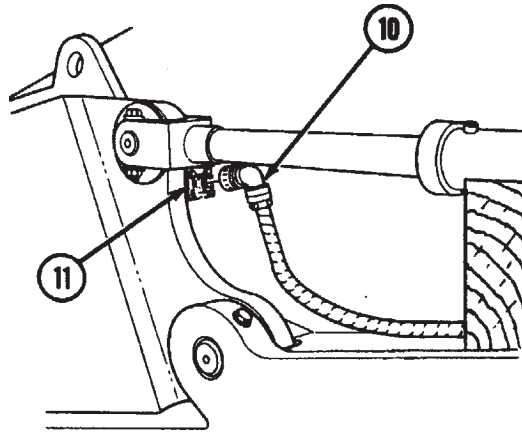

Figure 40. Headlight Intermediate Wiring Harness and Apron Wiring Harness.
Step 6 applies to Figure 40.
6. Connect headlight intermediate wiring harness cannon plug (10) to apron wiring harness receptacle (11).